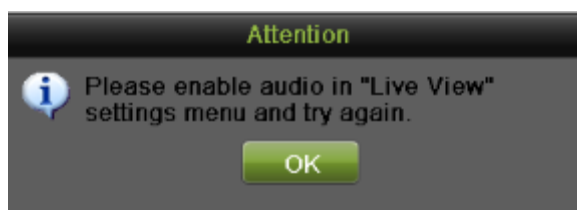

Figure 22 Enable Audio Attention Message
2. Enable audio by clicking the Enable Audio icon and disable audio by clicking the Disable Audio icon. An error message similar to the one shown in Figure 22 will pop-up if the Enable Audio option is not selected in the Live View menu for the specified channel.